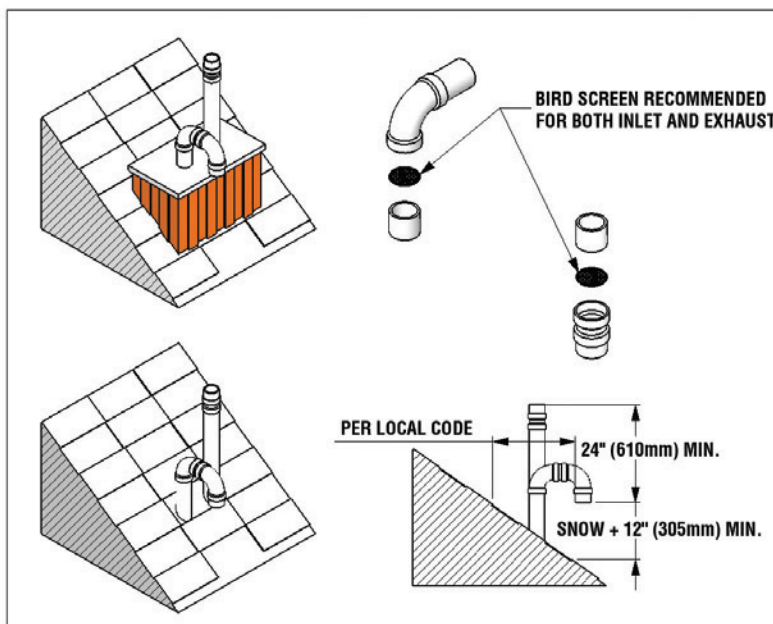

Figure 4: Rooftop vent terminal configurations
- Rooftop, two pipe, direct vent configurations, including typical clearance requirements, are shown in Figure 4.
- The intake air pipe is not typically drained, so it must be terminated with a down-turned elbow (see Figure 4).
It is extremely important to maintain at least the minimum separation of exhaust vent termination from boiler intake air as illustrated in figures 4, 5 and 9. Failure to do so can result in a dangerous situation where exhaust gasses are re-ingested with combustion air. Damage to the boiler can result from a failure to maintain these separations. Third party vent termination kits and concentric wall penetration kits that do not maintain these minimum separations shall **NOT** be used. Improper installation will void the warranty. Do not use proprietary Innoflue or PolyPro sidewall terminals without specific written approval from IBC.